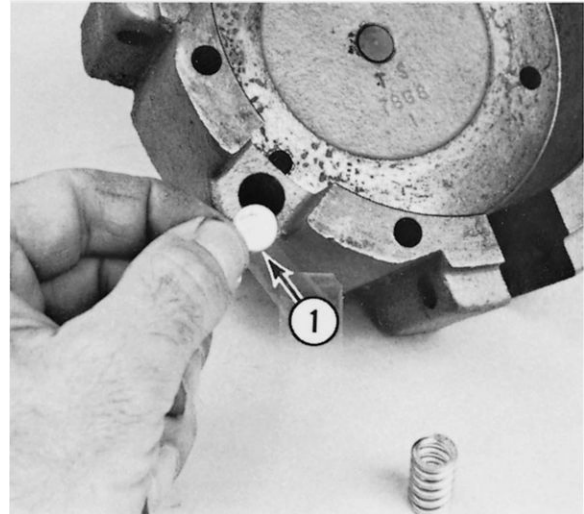

Fig. 9-12
(1) Clean each part with a clean cloth. Do not use any cleaning solvent on the clutch parts because the solvent may cause the clutch to slip. Inspect the molded disc, steel disc and pressure plate for wear and replace if necessary. (Normally the molded inner disc only needs to be replaced.)
(2) With the clutch arm plate inverted on a work bench, insert the three spring discs (1, Fig. 9-12).